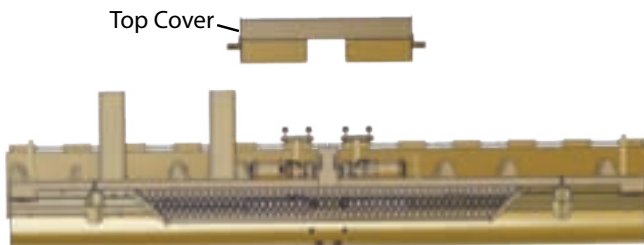

Figure 5-33. Remove Top Cover (Top View)
3. Remove the two (2) nuts holding top cover on and pry cover apart. **(Figure 5-33)**